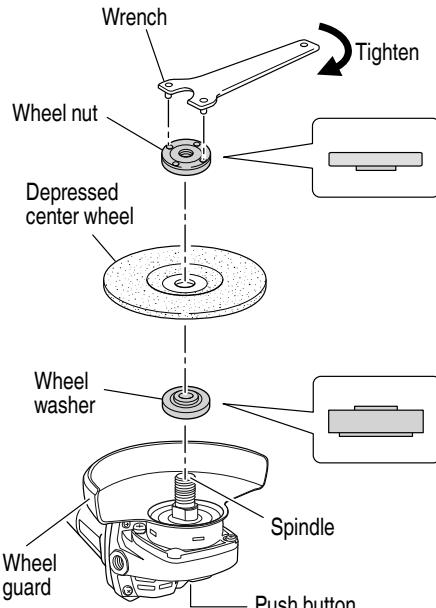

Fig. 5
10. Check the push button. Make sure that the push button is disengaged by pushing push button two or three times before turning on the grinder. (Fig. 5)
Tighten the wheel nut by using the supplied wrench as shown in Fig. 5.